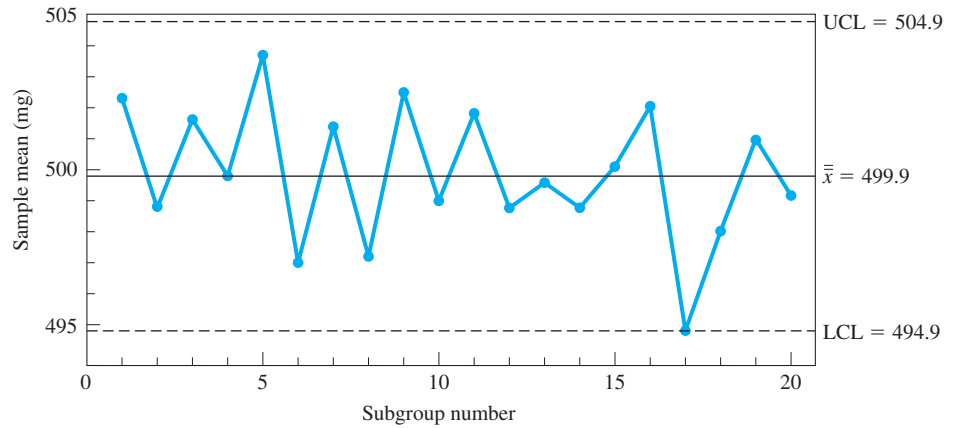
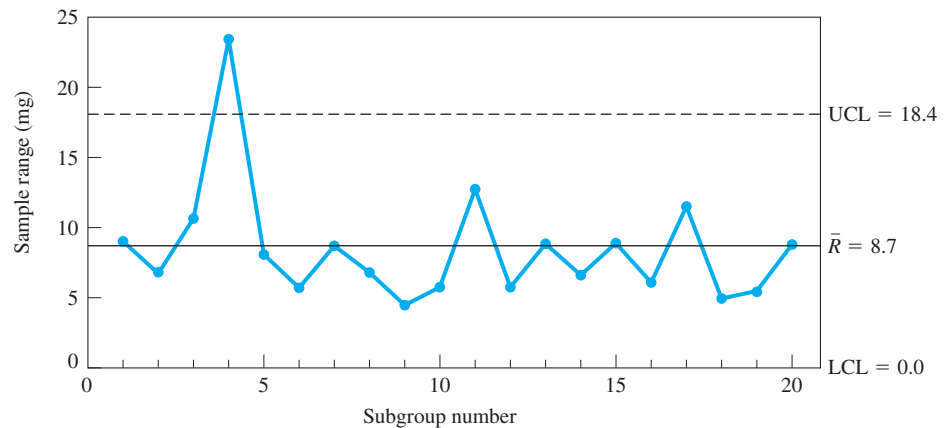

Fig. 22.17
Fig. 22.18
Using these central lines and control limit lines, we now plot the \bar{x} control chart in Fig. 22.17 and the R control chart in Fig. 22.18.
3. How would the \bar{x} control chart differ from Fig. 22.17?
4. How would the R control chart differ from Fig. 22.18?